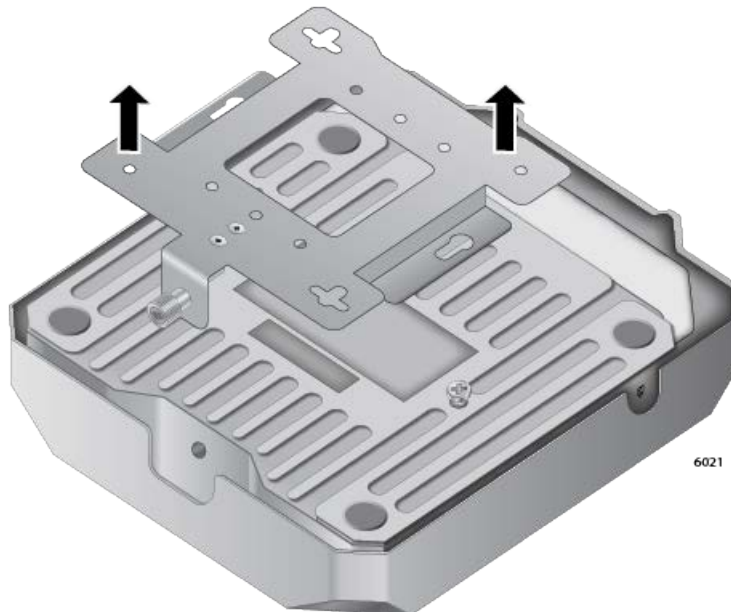

Figure 16. Removing the Mounting Bracket from the Access Point
4. Slide the mounting bracket forward and remove it from the access point. See Figure 16.